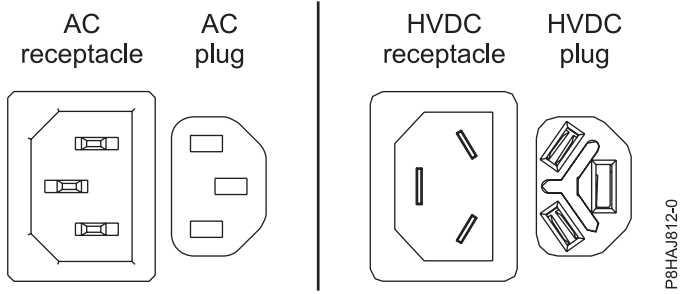
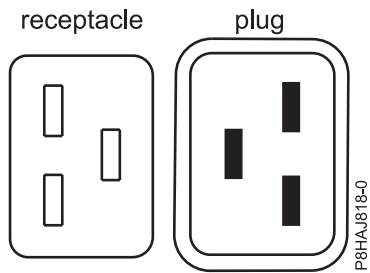
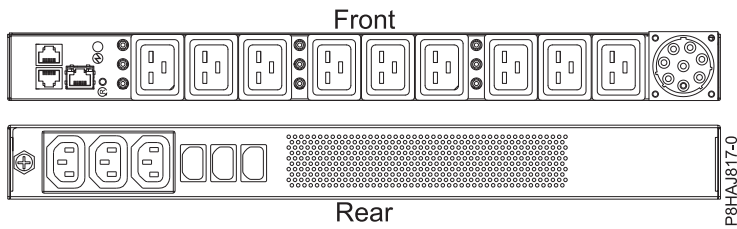

Figure 140. AC and HVDC connectors
Figure 141. Connectors for the 8408-44E system
Figure 142. PDU for the 8408-44E system
Figure 140 on page 155 shows the supported alternate current (AC) and high voltage direct current (HVDC) connectors. Figure 141 on page 155 and Figure 142 on page 155 show the supported connectors and power distribution unit (PDU) for 8408-44E.